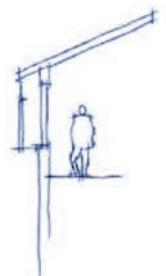

Figure 7D
- Horizontal or vertical louvres to a height of 1.7 metres above the upper floor level. Refer to Figure 7D.